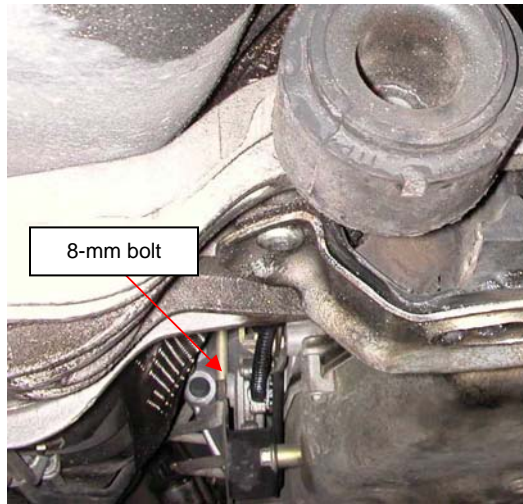

Fig. 11 Location of shifter cable and electrical connections
- a. Remove the 8-mm bolt securing the transmission shift and electrical cables to the extension case after noting the location of the two cables (see Fig. 11).